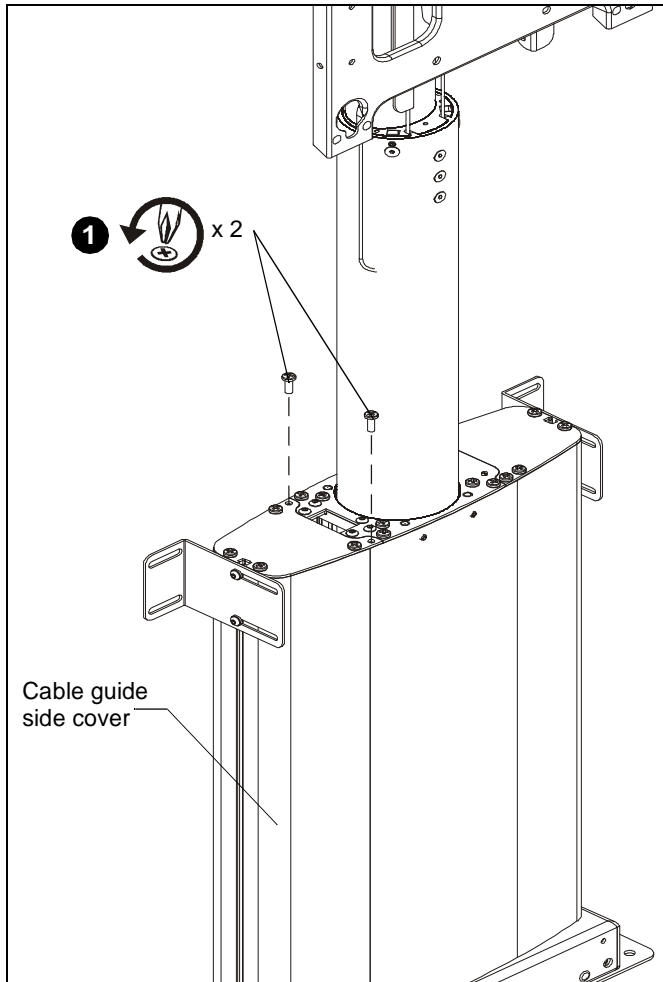

Figure 17
1. Remove two screws securing cable guide side cover. (See Figure 17)